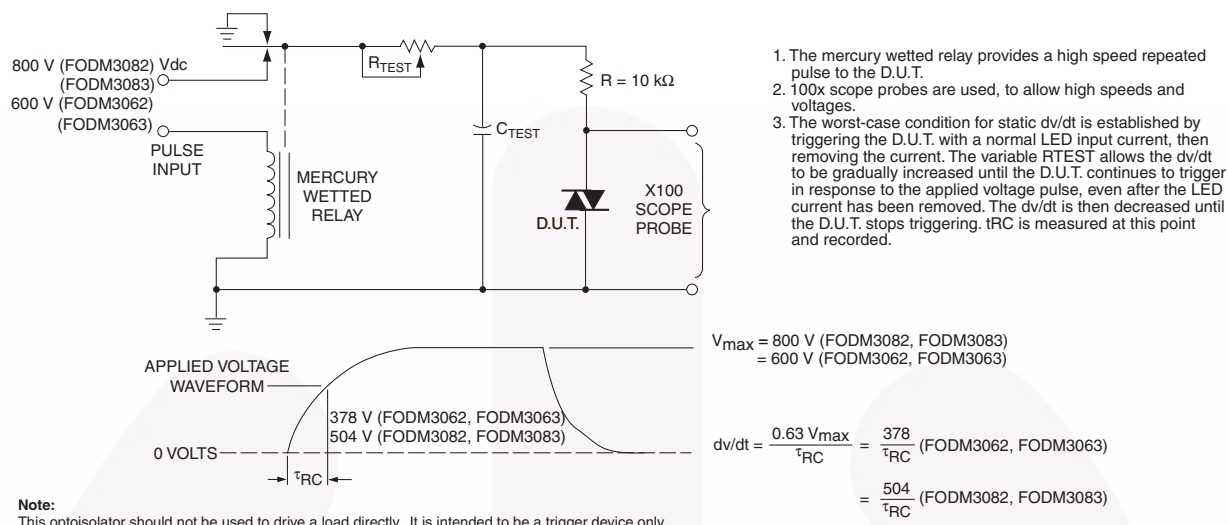

Figure 10. Static dv/dt Test Circuit
- This is static dv/dt. See Figure 10 for test circuit. Commutating dv/dt is function of the load-driving thyristor(s) only.